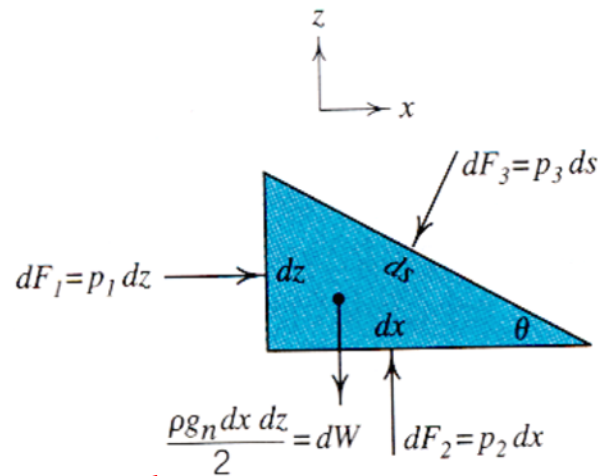

Fig. 1.2
- ② At a point, pressure has the same magnitude in all directions. → Fig. 1.2
- ③ Pressure is a scalar quantity.